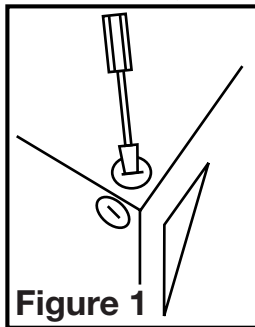

Figure 1
- Select the most convenient electrical knockout and remove using a straight-blade screw driver and install an approved electrical connector (**Figure 1**).